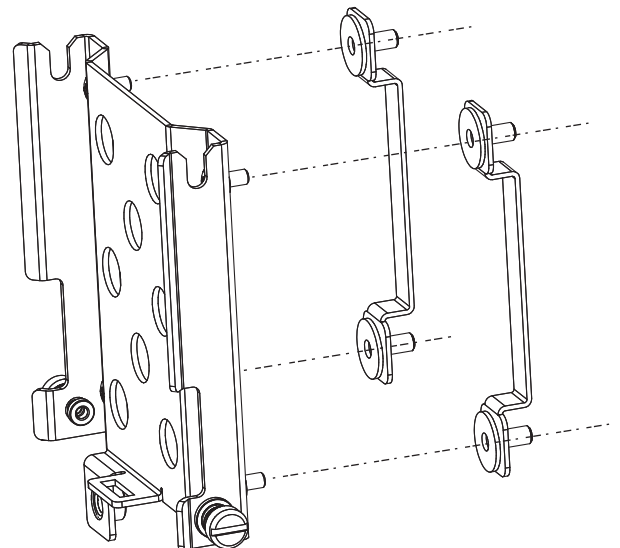

Fig. 2, Attaching mounting plate base to interior straps
6. Attach the mounting bracket bottom plate to the enclosure via the two interior mounting straps (see Fig. 2). Use a #2 Phillips screwdriver to set the screws in place, then use a torque wrench with a #2 Phillips extension to torque the screws to a value of 3.0-4.0 Nm (27-36 in-lb).